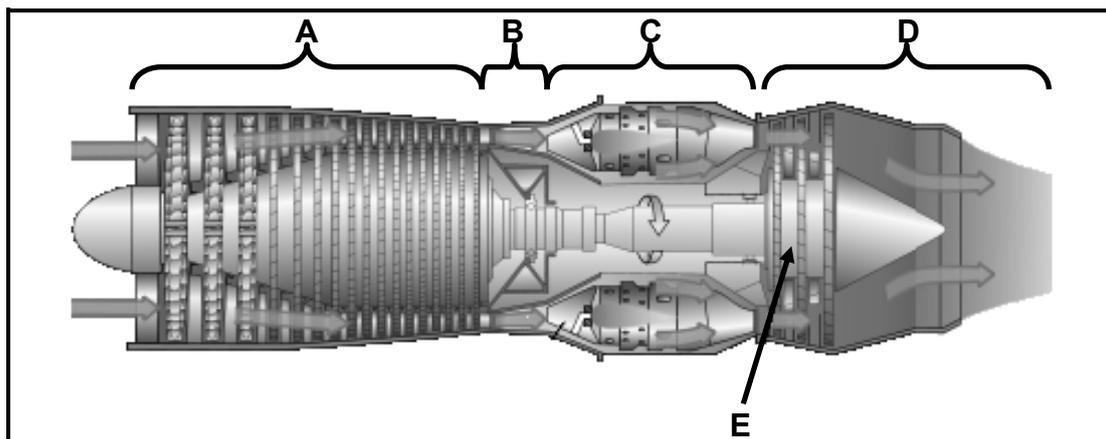

FIGURE 10.4
10.7 A gas turbine that is used as a jet engine is shown in FIGURE 10.4. Label phases **A** to **D** and part **E**.